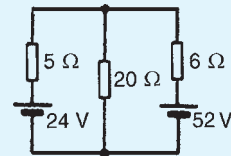

Figure 13.28
- 4. Use the superposition theorem to determine the current in each branch of the arrangement shown in Fig. 13.28